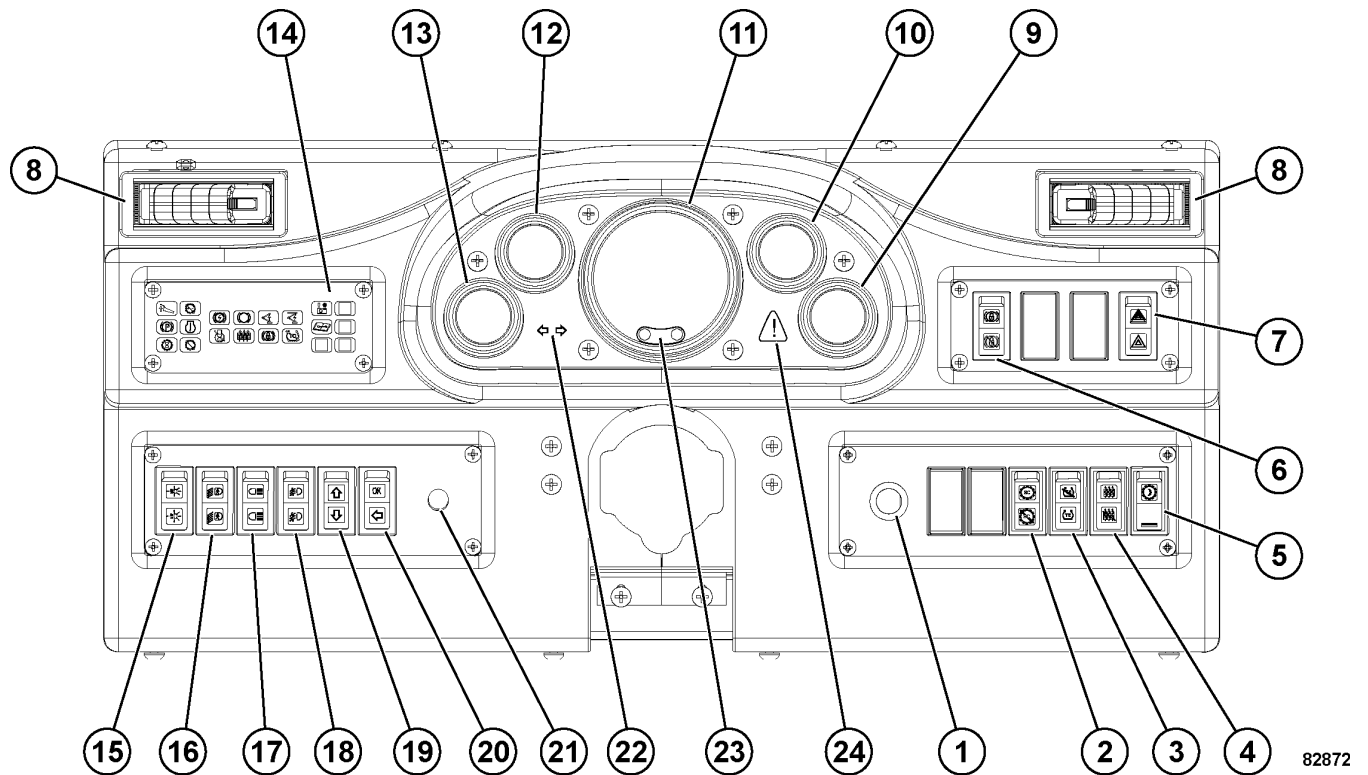

FIGURE 32-7. INSTRUMENT PANEL GAUGES, INDICATORS AND CONTROLS
Key switch (1, Figure 32-7) is a three-position switch (OFF, RUN, START).
2. After the engine has started, place rest switch (5, Figure 32-7) in the OFF position.
Speed control switch (2, Figure 32-7) is a rocker switch. When in the ON position, the speed control lever on the steering column can be used as a "cruise control" function.
Traction control switch (3, Figure 32-7) is a rocker switch. When in the OFF position, the traction control feature is turned off. This can be used in dry operating conditions when the chance of slipping or sliding is minimal so that the drive system will always put maximum power to the ground.
Retarding grid drier switch (4, Figure 32-7) is a rocker switch. When in the ON position, this feature is used to dry the retarding grids when starting the truck after it has been washed or parked in rainy conditions. This will
Rest switch (5, Figure 32-7) is a rocker switch with a locking device. A safety tab on the switch must be pushed to unlock the switch before the top of the switch can be depressed to activate the rest mode.
Wheel brake lock switch (6, Figure 32-7) should be used with engine running for dumping and loading operations only. The brake lock switch actuates the hydraulic brake system which locks the **rear wheel service brakes only**. When pulling into shovel or dump area, stop the truck using the foot-operated service brake pedal. When truck is completely stopped and in loading position, move the directional control lever to NETURAL, then apply the brake lock by pressing the top of the rocker switch. To release the brake, press the bottom of the rocker switch.
Hazard warning light switch (7, Figure 32-7) flashes all the turn signal lights. Pressing the bottom side of the rocker switch activates these lights. Pressing the top side of the rocker switch turns these lights off.
Heater/air conditioner vents (8, Figure 32-7) are may be directed by the operator to provide the most comfortable cabin air flow.
Fuel level gauge (9, Figure 32-7) indicates how much diesel fuel is in the fuel tank. When there is only 10% of total fuel tank capacity remaining, the amber low fuel level indicator on the gauge will illuminate.
Hydraulic oil temperature gauge (10, Figure 32-7) indicates the oil temperature in the hydraulic tank. There are two colored bands: green and red.
Speedometer/digital display (11, Figure 32-7) has several functions:
Coolant temperature gauge (12, Figure 32-7) indicates the temperature of the coolant in the engine cooling system. The temperature range after engine warm-up and a truck operating under normal conditions should be 85° to 97°C (185° to 207°F).
Drive system temperature gauge (13, Figure 32-7) indicates the status of the highest measured temperature range in the drive system.
Status indicator light panel (14, Figure 32-7) contains an array of indicator lights to provide the operator with important status messages concerning selected truck functions. Refer to Status Indicator Lights later in this section for a detailed description of these indicators.
The instrument panel lights, clearance lights, and the headlights are controlled by this three-position rocker type switch (15, Figure 32-7). OFF is selected by pressing the bottom of the switch. Press the top of the switch until it reaches the first detent to select the panel lights, clearance lights and tail lights only. Press the top of the switch again until it reaches the second detent to select headlights, panel lights, clearance lights and tail lights.
Ladder light switch (16, Figure 32-7) turns the ladder lights on or off after or before using ladder. Pressing the top of the rocker switch turns the lights on. Pressing the bottom of the switch turns the lights off. Another switch is mounted at the front left of truck near the base of ladder.
Backup light switch (17, Figure 32-7) allows the backup lights to be turned on for added visibility and safety when the directional control lever is not in the REVERSE position. When the switch is in the ON position, the backup light indicator on the instrument panel (B4, Figure 32-8) will be illuminated.
Pressing the top of fog light switch (18, Figure 32-7) turns the lights on. Pressing the bottom of the switch turns the lights off.
Mode switches (19) and (20, Figure 32-7) are two-way momentary rocker switches. The arrows are used to toggle through the different options and messages on the digital display. The OK position is used to acknowledge and clear warnings and faults and set certain Payload Meter III settings.
Panel illumination light dimmer switch (21, Figure 32-7) is a rheostat which allows the operator to vary the brightness of the instruments and panel illumination lights.
Indicators (22, Figure 32-7) illuminate to indicate that the right or left turn signals are operating when the turn signal lever on the steering column is moved upward or downward. Moving the lever to its center position will turn the indicator off.
Cold ambient operating temperatures may affect the contrast of the digital display. If necessary, use buttons (23, Figure 32-7) to increase or decrease the contrast of the digital display to make it easier to read.
Red warning light (24, Figure 32-7) will come on to indicate that a truck function requires **immediate action** by the operator. Safely stop the truck and shut down the engine. A warning message will appear on the digital display.